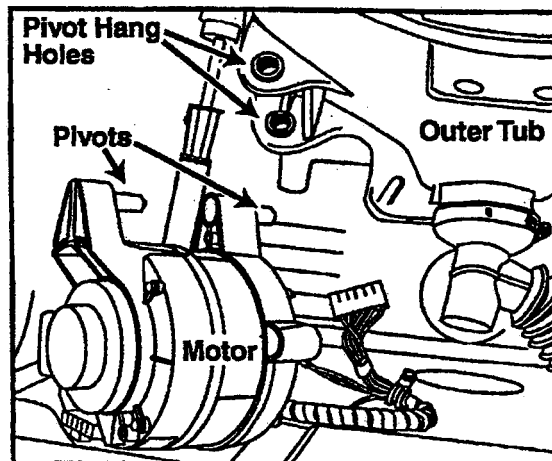

Figure 2-53
4. Lift the motor slightly to disengage the belt from the motor pulley. Grasp the motor and slide it carefully from the pivot hang holes in the outer tub. Place motor on the base frame (*Figure 2-53*).